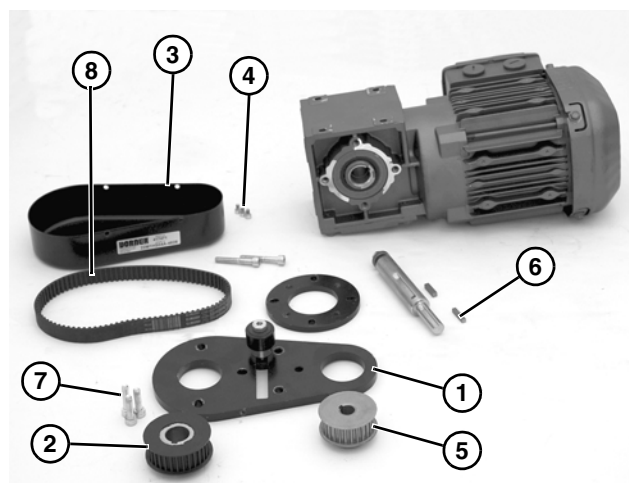

Figure 4
1. Typical components (Figure 4).
Type 1 mounting package shown (Figure 4), Type 2 mounting package similar.